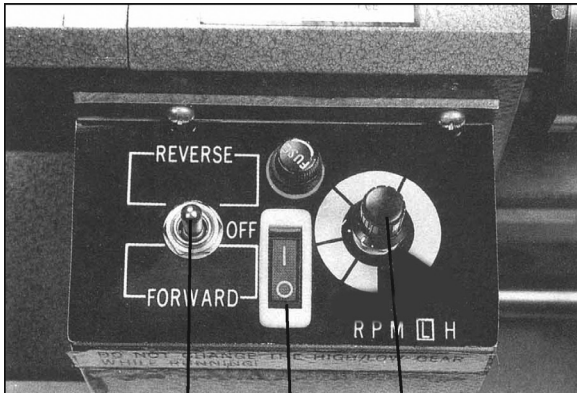

Fig 4
5. Make sure the Switch (#1 in figure 4 below) is at the OFF position.